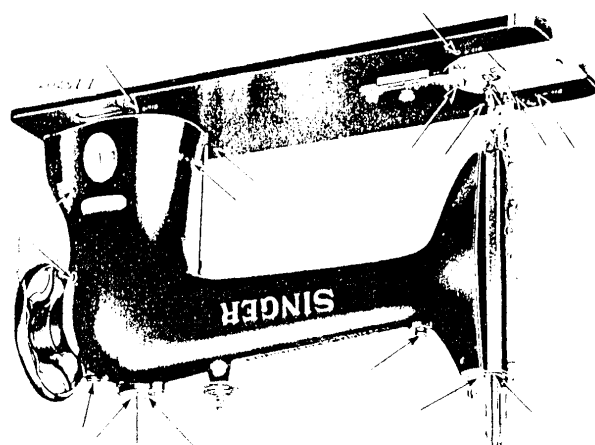
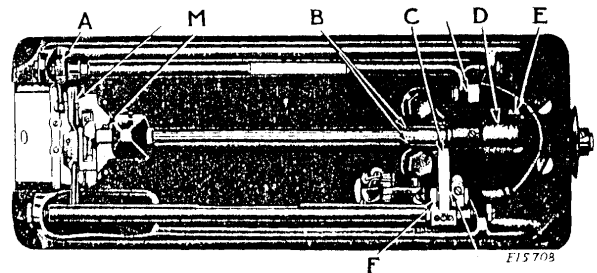

Fig. 2 Front View of Machine Showing Oiling Points
Fig. 3 Base View of Machine
The looper should be set so that its point comes as close as possible to the center of the clearance in the needle without striking it on the upward stroke of the needle bar. To adjust the looper, loosen the set screw (M, Fig. 3) and move the looper toward or away from the needle as required, then securely tighten the screw (M). Make certain that the screw (M) rests on the flat provided for it on the looper shaft.
The feed dog should be set so that when it is raised to its highest point, the full depth of the teeth project above the upper surface of the throat plate. If the feed dog is not set at the correct height, loosen screw (A, Fig. 3) and raise or lower the feed dog as required, then securely tighten the screw (A).
If the looper is out of time, loosen the two screws (B, Fig.3) on the looper shaft and move the looper as required. Then tighten the screws (B).
Apply oil to all oil holes in the arm and bed of the machine as indicated by the arrows in Fig. 2. Also apply oil to the oil hole at the top of the lifting lever at the rear side of the machine. Remove the face plate and apply oil to all places in movable contact. Keep all wicking saturated with oil. Turn the machine back on its hinges and apply oil to the parts underneath the machine indicated by the unlabeled arrows in Fig. 3. Occasionally check the grease in gear case (D) and, if low, replenish with Singer Gear Lubricant through the hole at (E) after the removal of the screw. If the machine runs hard after standing for some time, use a little kerosene or benzine on the wearing parts, run rapidly, wipe clean, and then oil as instructed. The machine should always be cleaned and oiled before using.